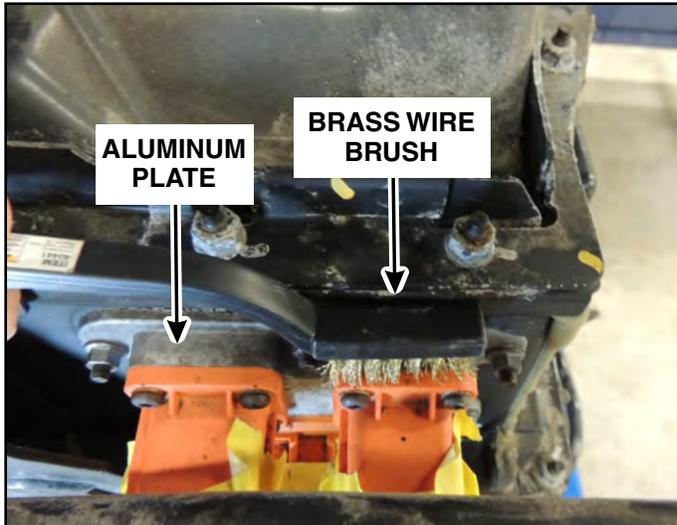

FIGURE 3a
- Using a brass wire brush, thoroughly clean the areas surrounding the three high voltage connectors to aluminum plate mating surfaces. Using compressed air, clean the loose debris from the connectors. See Figures 3a and 3b.